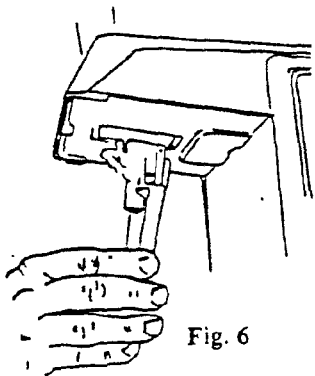

Fig. 6
- a. Push handle assembly straight up through rectangular hole until clips snap into place (see Fig. 6).